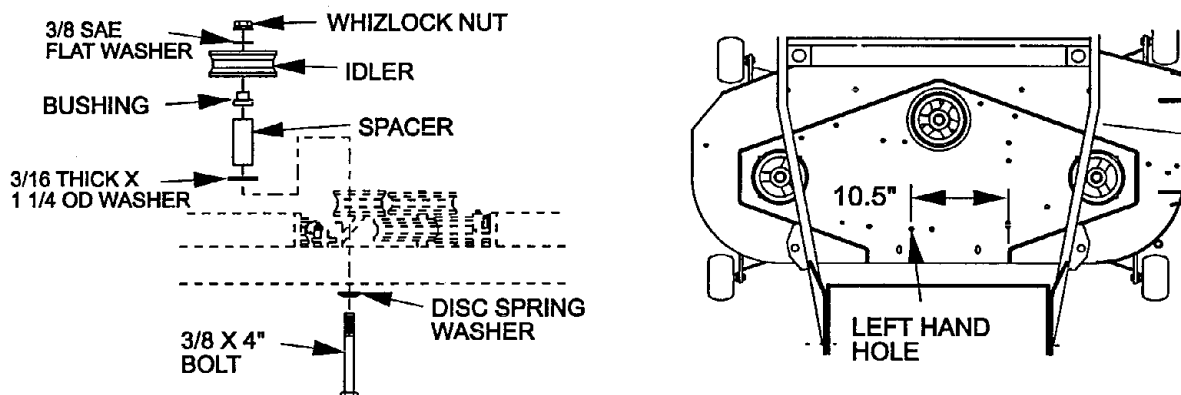

FIG 2
- 3.6.6 Install cutter deck stationary idler. Locate two holes along the back center section of the cutting deck. Install the stationary idler and related parts in the left hand hole location as shown in Figure 2. See belt routing decal on deck. Be sure the coned end of the disc spring is against the head of the bolt as illustrated (see Figure 2).